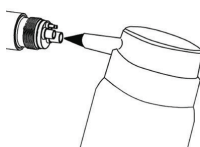

Fig 5
- Hold the Beyes Spray can upright. Fig 5